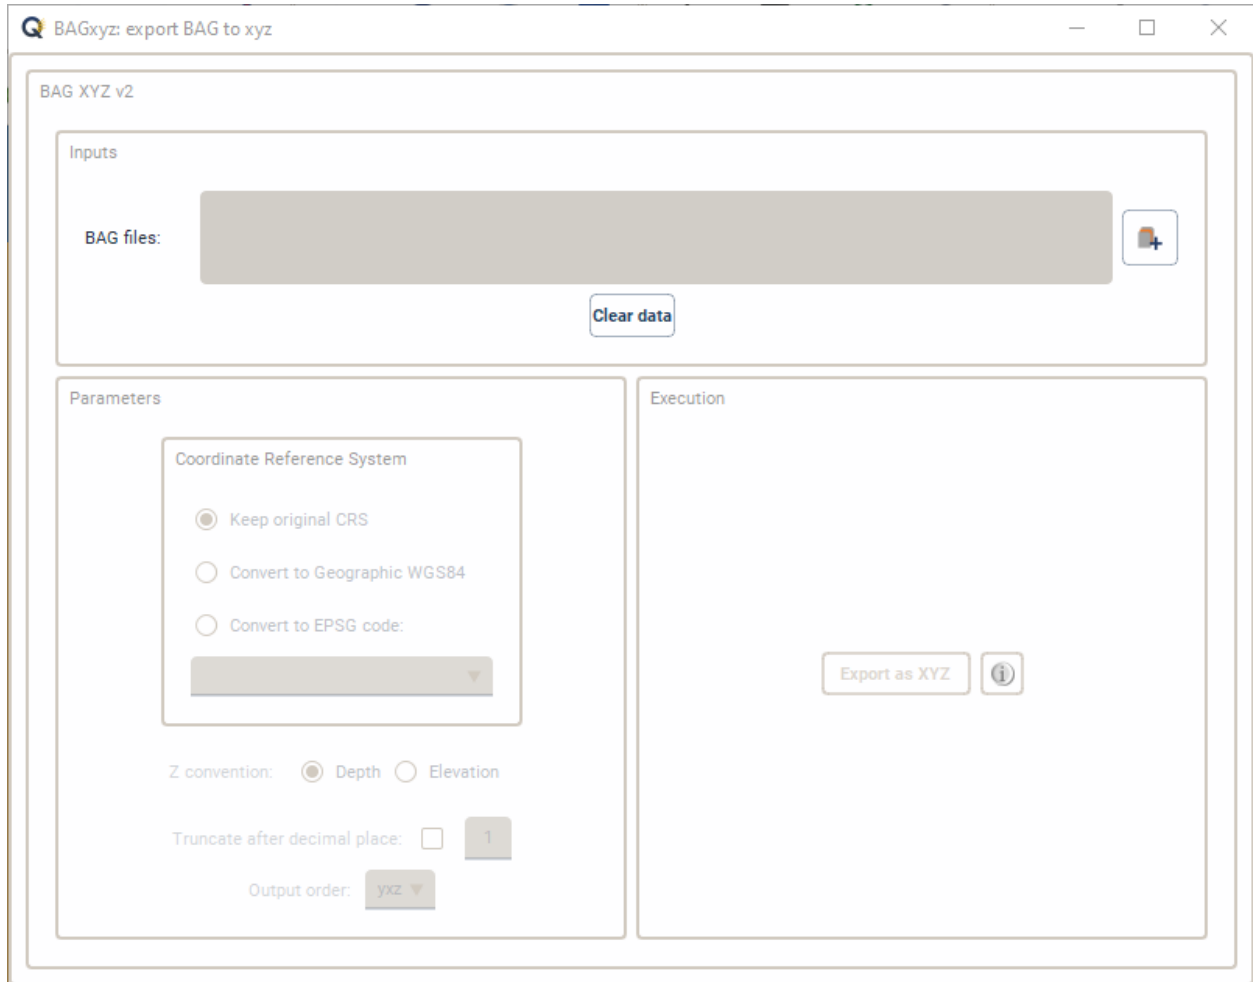

Fig. 2.59: BAG XYZ's interface.
- In **Execution** (Fig. 2.59), click **Export as XYZ**.